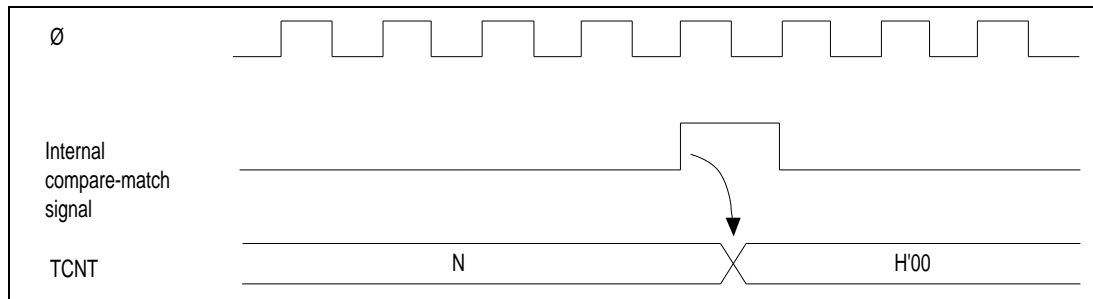

Figure 7-7. Timing of Compare-Match Clear
(3) Timing of Compare-Match Clear: Depending on the CCLR1 and CCLR0 bits in the TCR, the timer counter can be cleared when compare-match A or B occurs. Figure 7-7 shows the timing of this operation.